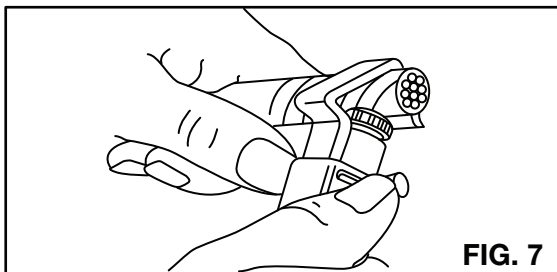

FIG. 7
7. For tough insulation, cut cable insulation in spiral form. After Step 4 rotate lever and place blade in a diagonal position (45°), and while holding this position, rotate tool around cable. Peel-off insulation, see Fig. 7.